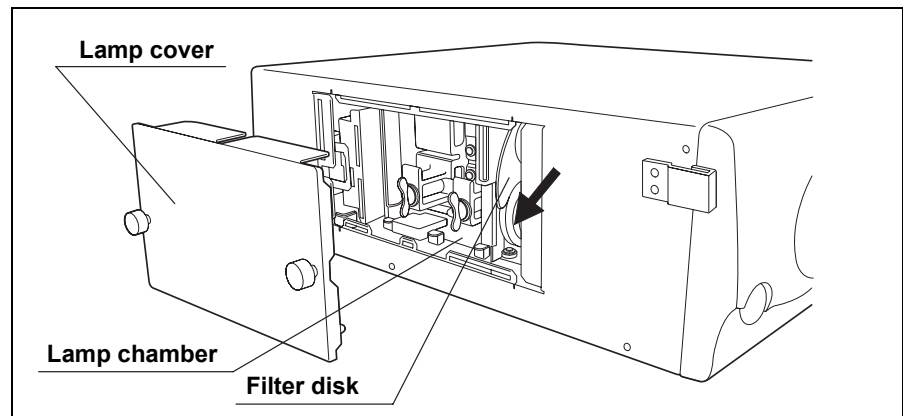

Figure 4.5
3. Remove the lamp cover and confirm that a special-purpose filter is installed in the filter disk (see Figure 4.5).